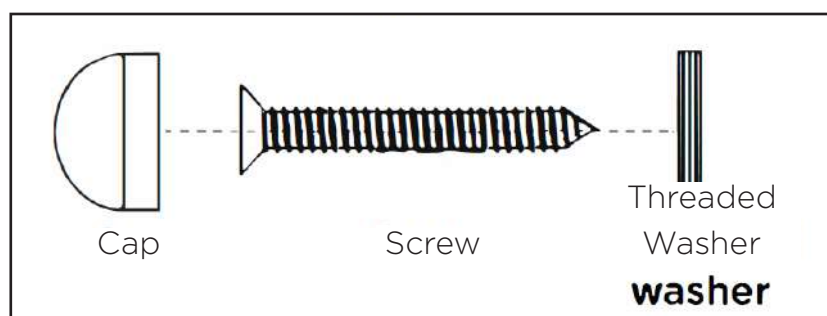

Fig. 3
4. Ensure that the brass threaded washers provided, sit between the accessory and the screw head, fit screws accordingly, see (Fig. 3).